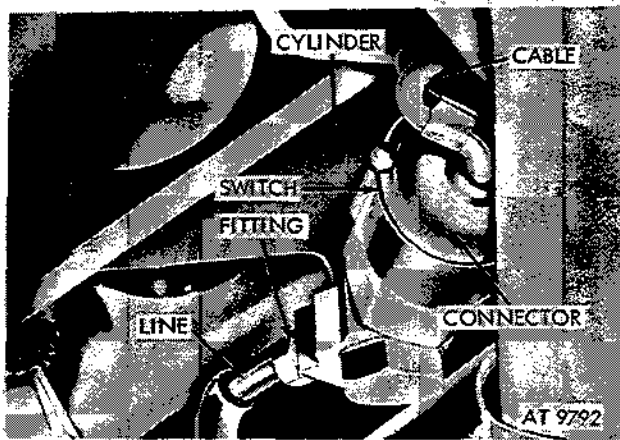

Figure 2-373. Separate connector at stoplight switch and disconnect fitting.
(1) Separate the connector at stoplight switch, located under dash panel (fig. 2-373).
(2) Disconnect brake line fitting from master cylinder (fig. 2-373).